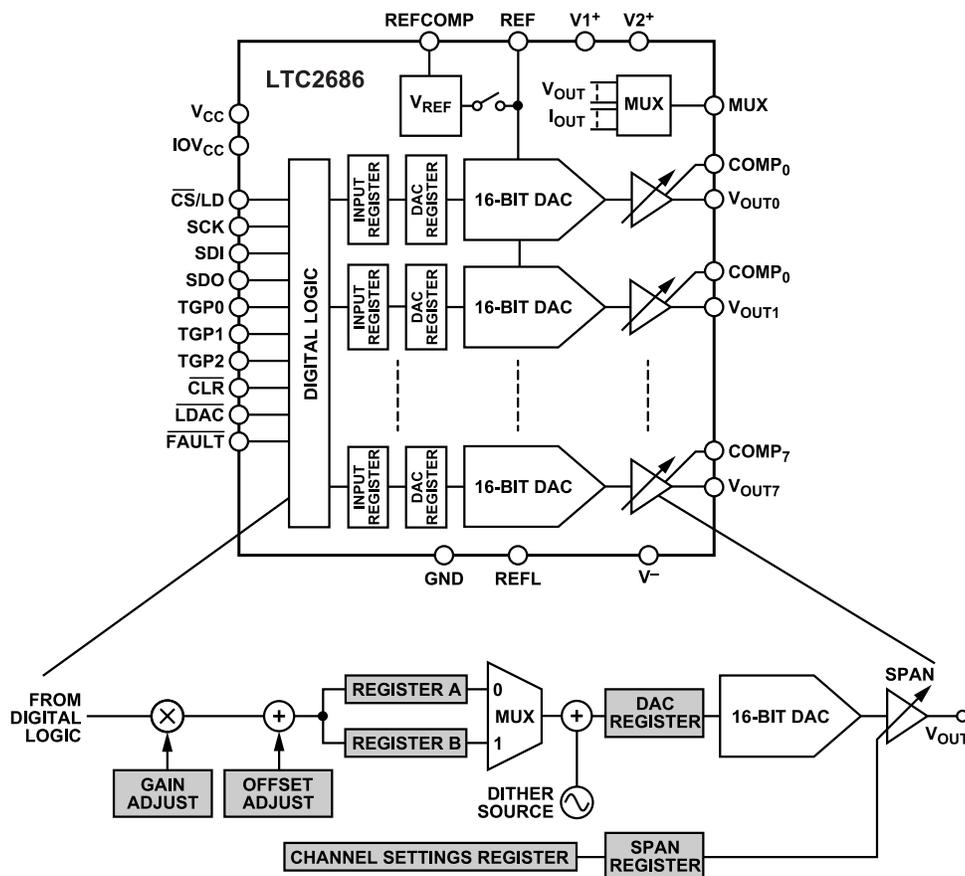

Figure 42. Block Diagram
- ▶ **Input register:** the write operation shifts data from the SDI pin into a chosen input register. The input registers are holding buffers. Write operations do not affect the DAC outputs directly. In the code datapath there are two input registers, A and B, for each DAC register. Input Register B is an alternate input register used only in toggle and dither operation, whereas Input Register A is the default input register (see Figure 42).
- ▶ **DAC register:** the update operation copies the contents of an input register to its associated DAC register. The content of a DAC register directly controls the DAC output voltage or range. The update operation also powers up the selected DAC if it was in power-down mode. The data path and registers are shown in Figure 42. Updates always refresh both code and span data, but the values held in the DAC registers remain unchanged unless the associated input register values have been changed via a write operation. For example, writing a new code and updating the channel updates the code, but the span is unchanged. A channel update can come from a serial update command, an LDAC negative pulse, or a toggle operation.